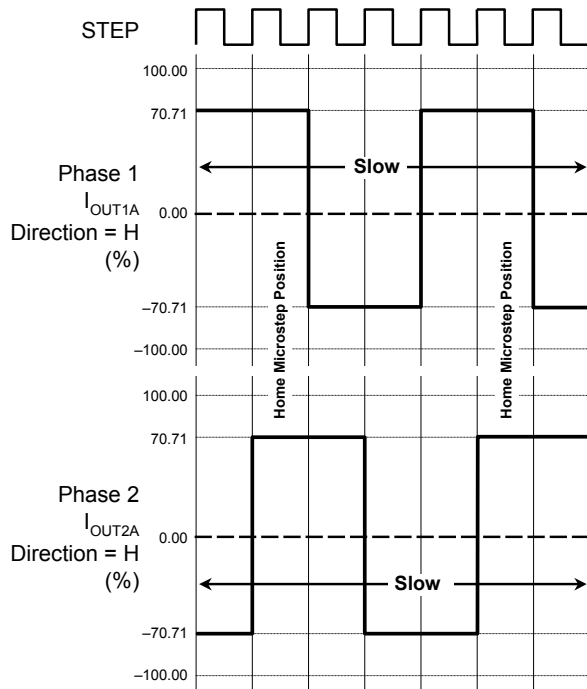

Figure 2. Decay Mode for Full-Step Increments
At power-on or reset, the translator sets the DACs and the phase current polarity to the initial Home state (shown in figures 2 through 5), and the current regulator to Mixed Decay Mode for both phases. When a step command signal occurs on the STEP input, the translator automatically sequences the DACs to the next level and current polarity. (See table 2 for the current-level sequence.) The microstep resolution is set by the combined effect of inputs MS1 and MS2, as shown in table 1.
**RESET Input (RESET).** The RESET input sets the translator to a predefined Home state (shown in figures 2 through 5) and turns off all of the DMOS outputs. All STEP inputs are ignored until the RESET input is set to high.